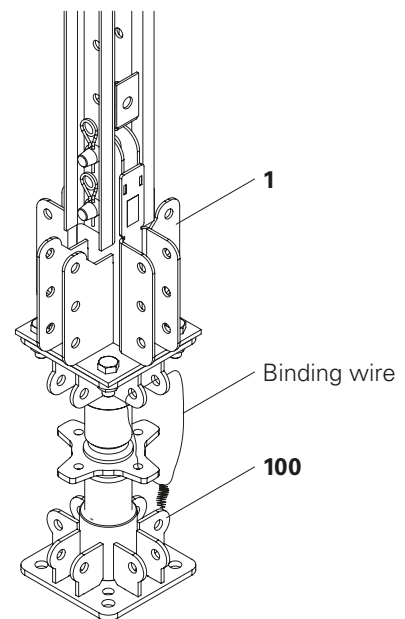

Fig. A1.19a
- The Spindle ATS 360-550 (100) must not be greased
- After height adjustment has taken place, secure the Spindle ATS 360-550 (100) against any unintentional downwards spindling, e.g. binding wire. (Fig. A1.19a)